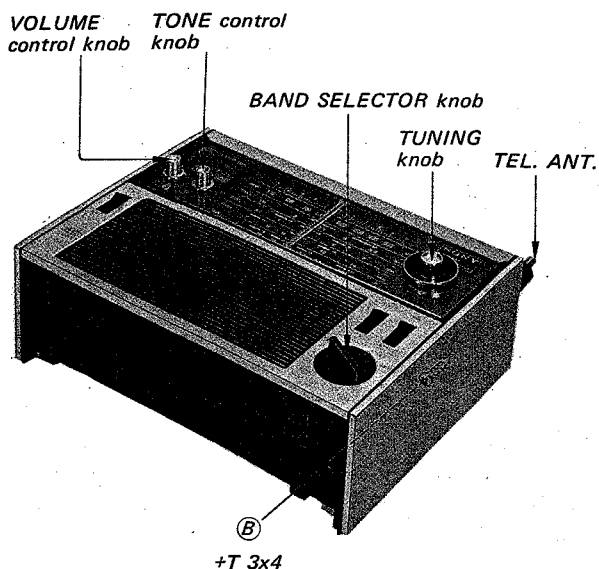

Fig. 2-2 Chassis removal, steps 1 and 2
1. Pull out the four knobs, VOLUME, TONE, TUNING and BAND SELECTOR. (See Fig. 2-2.)
2. Remove a screw labeled (B) in Fig. 2-2.